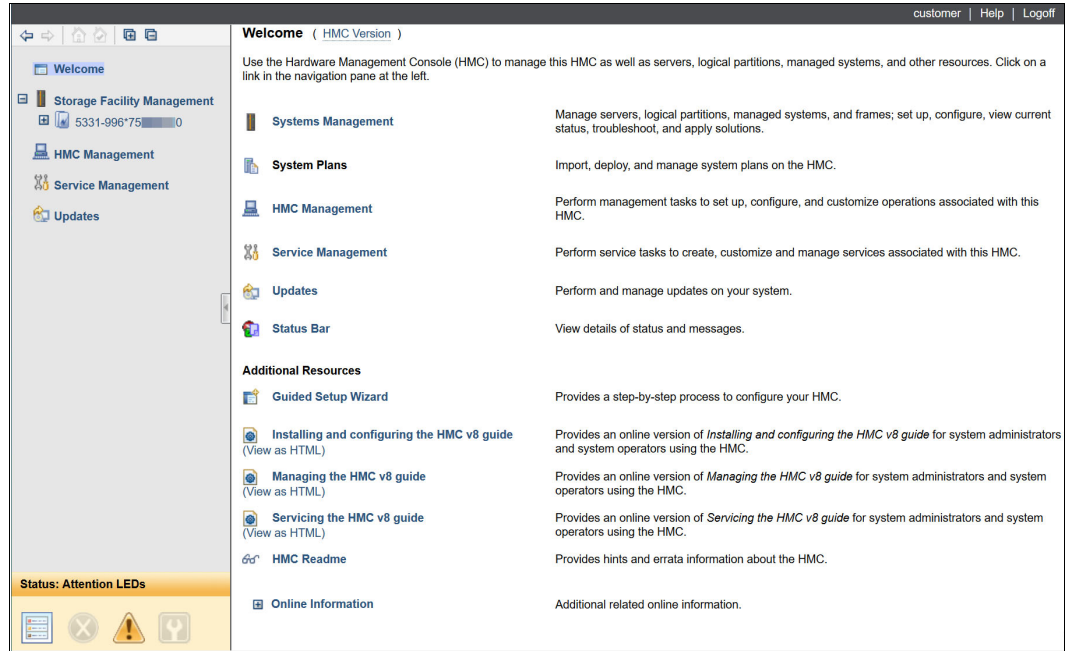

Figure 12-1 HMC Service Management
1. Log in to the Service Management section on the HMC, as shown in Figure 12-1.